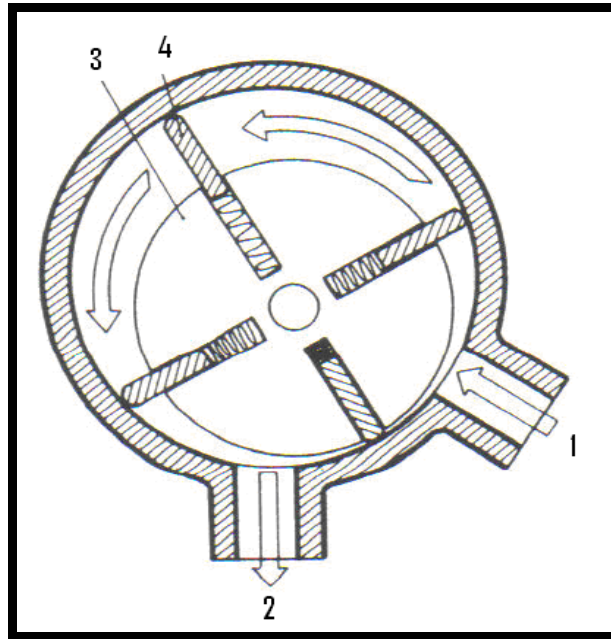

FIGURE 6.1
6.7 Mr Willy uses a blower, shown in FIGURE 6.1, to increase the output power of his car's engine. Study the diagram and answer the questions that follow.
6.7.1 Identify the type of blower shown in FIGURE 6.1. (2)
6.7.2 Label numbers 1 to 4 in FIGURE 6.1. (4)